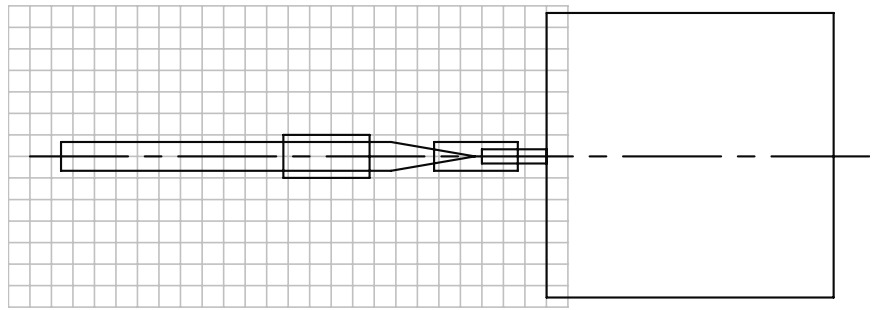

FIG. 7
Step 6. Draw the lines in **Fig. 7**.